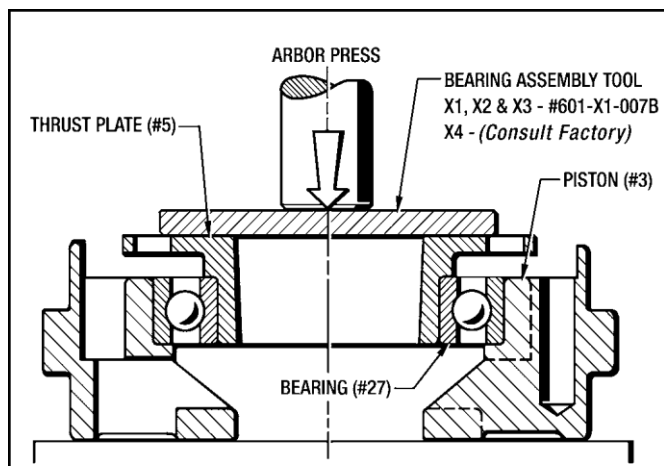

Figure 9.2 - Installing Thrust Plate (#5)
5. With the same Bearing Assembly Tool and an Arbor Press, install the Thrust Plate (#5) into the Bearing (#27) as shown in Figure 9.2.